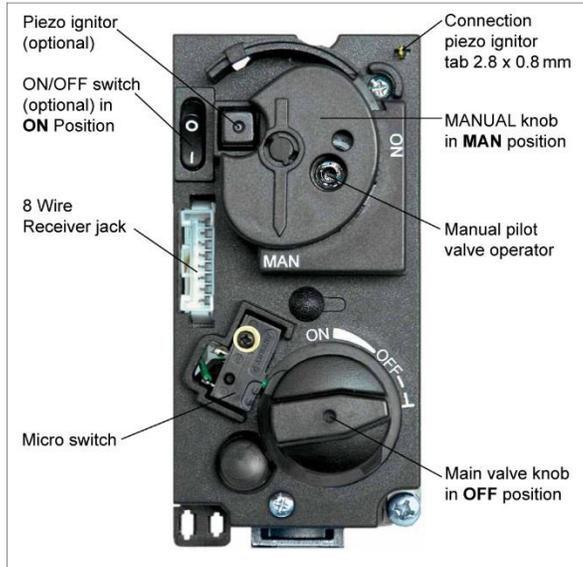

Figure 25: Combination control, cover
5. Wait five (5) minutes to clear out any gas. Verify that no gas is in the area around the appliance, including near the floor. **If you detect gas STOP! Follow "WHAT TO DO IF YOU SMELL GAS" in the safety information on page 2.** If no gas is present, proceed to step 6.
8. Fully push down manual pilot valve operator and hold in, to start pilot gas flow (see figure 25, page 21).
Change the ignition cable from the receiver to the valve (see figure 25, page 21). Push in the piezo ignitor to ignite. If pilot does not stay lit, wait five (5) minutes and repeat.